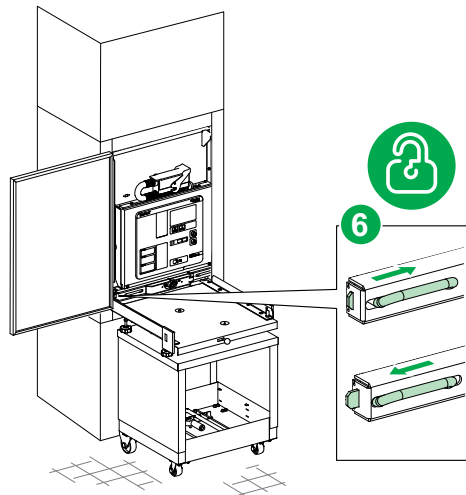

Figure 77
NOTE: Latch the locking handles of the VCB truck away from each other to latch VCB with the transport trolley. Refer to the Figure 77.
8. Firmly hold the transport trolley and push the knob of the transport trolley to the left-hand side of the interlock to open and remove the transport trolley from the cubicle. Refer to Figure 77 in Insertion of the EvoPacT HVX VCB into the Cubicle, page 80.